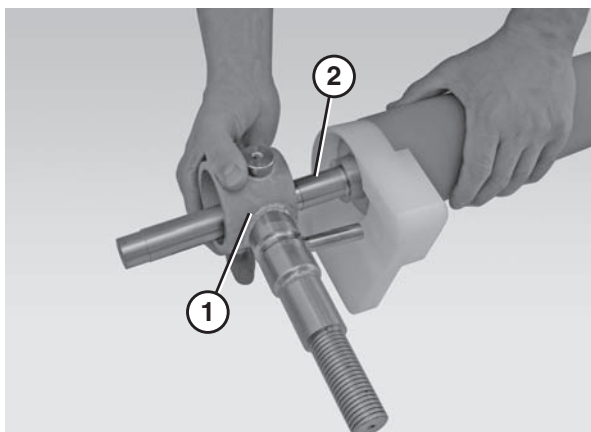

Figure 63
- Slide the motor support bracket (**Figure 63, item 1**) off the drive spindle (**Figure 63, item 2**).